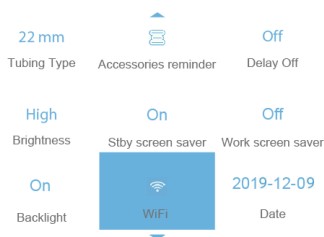

Fig. 15-5
(2) Turn **the Knob**  until the cursor stays on the **"WiFi"** option, as shown in Fig. 15-5. Press **the Knob** , and the interface shown in Fig. 15-6 appears. Wait for 0-5 seconds to automatically access the **"WiFi"** setup interface.